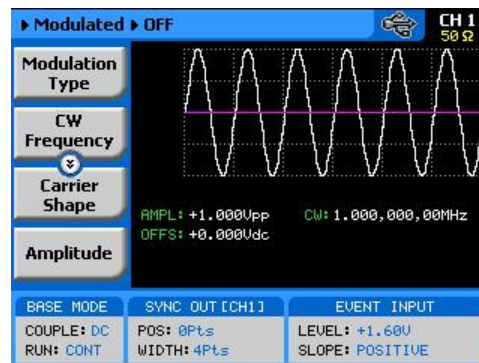

Figure 3-33, Modulation OFF Parameters
The Modulation Off is a special instance of the modulation function, where the output is not modulated, but generates carrier waveform (CW) frequency only. CW can be sine, triangle, or square waveforms. When placed in Modulation Off, the CW is generated from the main outputs continuously. The CW parameter does not change when you switch from one modulation function to another. Figure 3-33 shows the Modulation Off menus.